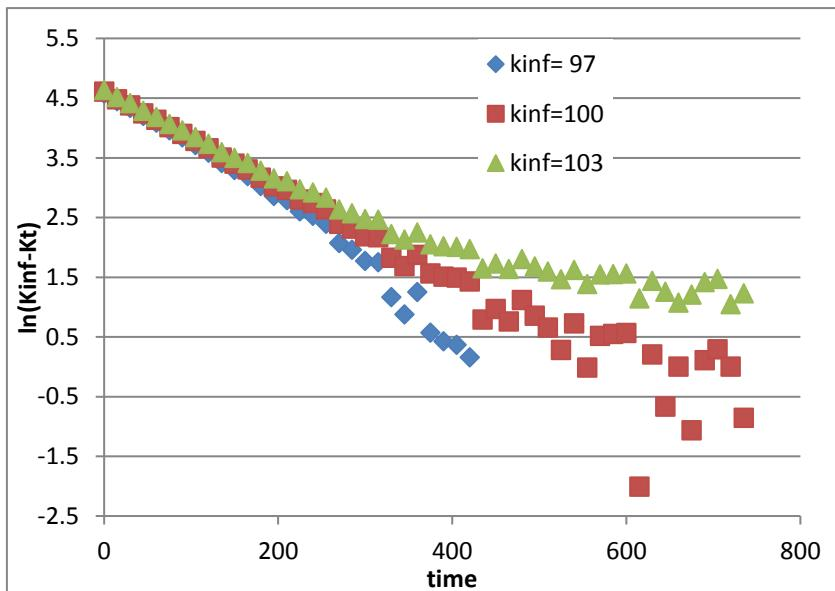

Figure 9.6: The graph of  $\ln(\kappa_\infty - \kappa_t)$  versus Time  $t$  (s) for a first order reaction.
This data is then used to calculate  $\ln(\kappa_\infty - \kappa_t)$  where the value of  $\kappa_\infty$  is exactly correct ( $\kappa_\infty = 100$ ) or 3% below or above the correct value ( $\kappa_\infty = 97$  and  $103$ , respectively). The resulting plots of  $\ln(\kappa_\infty - \kappa_t)$  vs. time are shown in Fig. 9.6.
The plot of  $\ln(\kappa_\infty - \kappa_t)$  versus time should be linear, but as  $(\kappa_\infty - \kappa_t)$  values approach to zero, any error in  $\kappa_\infty$  will introduce nonlinearities in the plot. This effect becomes significant when the measured value is comparable with the noise in the measurement. For the current experiment this occurs at times longer than about 3 half-lives (Fig. 9.6).
- If a low or high value of  $\kappa_\infty$  is used then the plot of  $\ln((\kappa_\infty - \kappa_t))$  becomes non-linear and trends to lower or higher slopes at longer times (Fig. 9.6 at times longer than *ca.* 200 s).